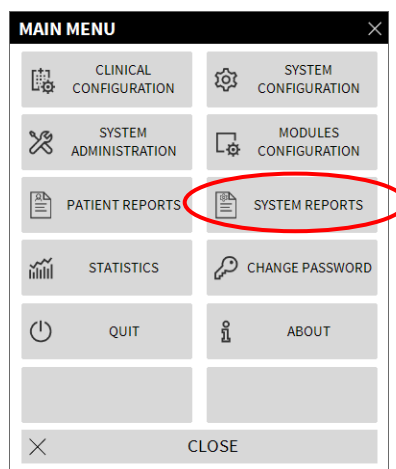

Fig 32
The following menu is displayed (Fig 32).
- Click **SYSTEM REPORTS** (Fig 32).